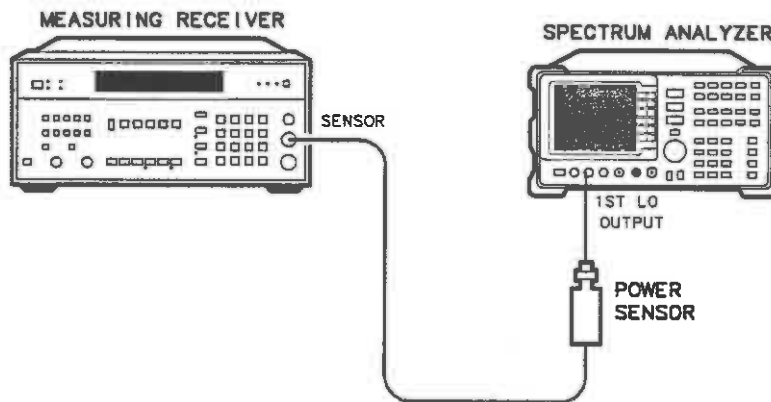

Figure 3-22. 1ST LO OUTPUT Amplitude Test Setup
2. Connect the equipment as shown in Figure 3-22, with the output of the power splitter connected to the HP 8485A Power Sensor.
2. Connect the equipment as shown in Figure 3-22.